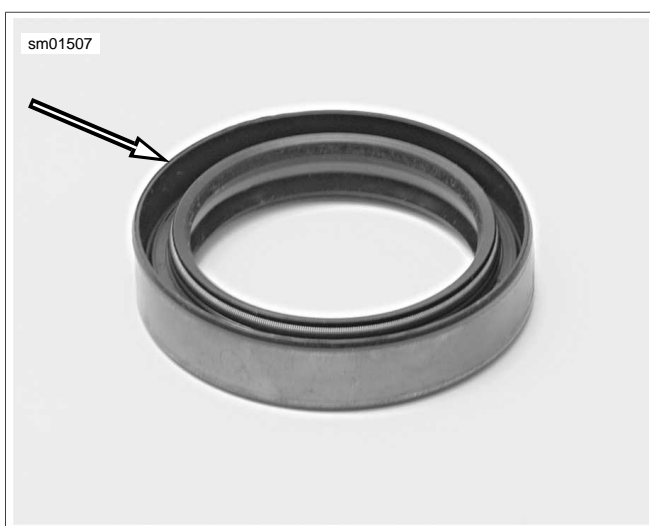
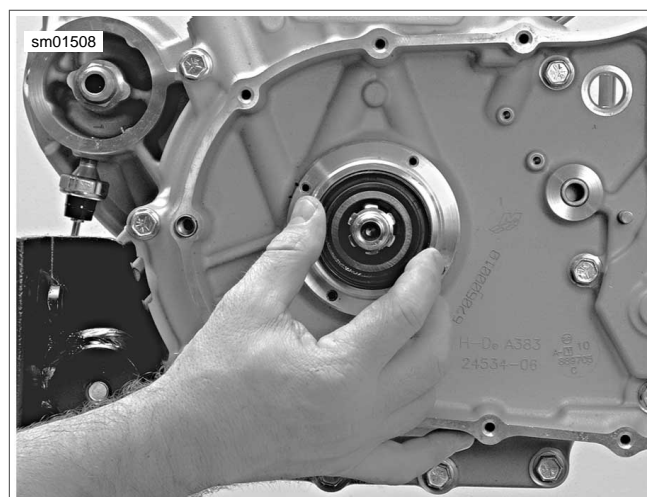

Figure 3-57. Open (Lipped) Side of Seal Faces Out
Figure 3-58. Install Spacer and Seal
7. See Figure 3-57. See Figure 3-58. Install spacer in I.D. of **new** seal. With the open (lipped) side of seal facing outward, center seal/spacer assembly over bearing bore.